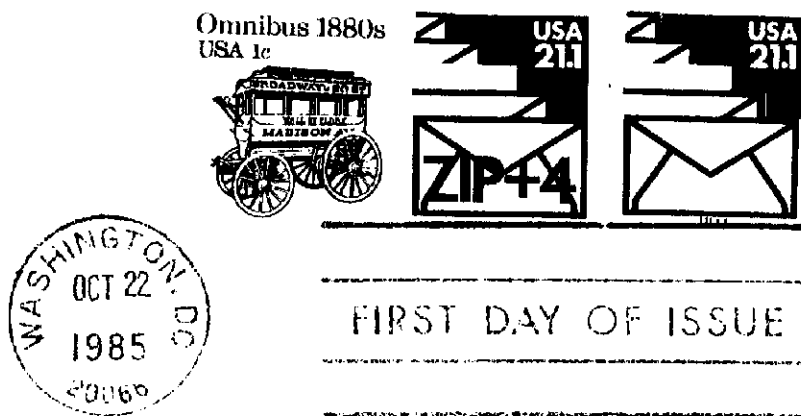
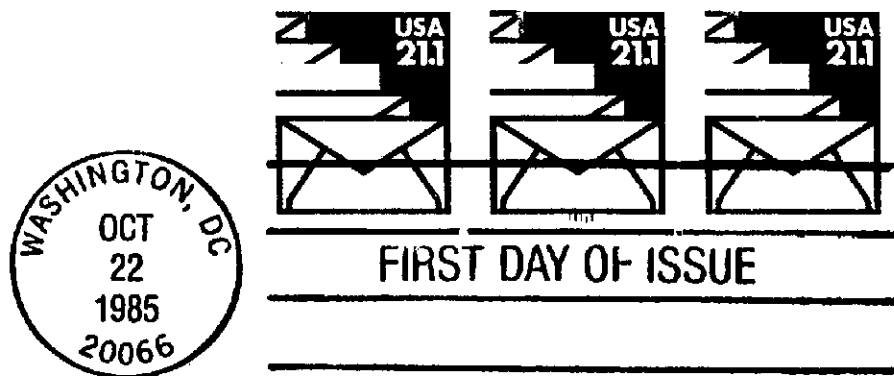

Figure 4: A machine cancel. Note the smaller diameter of the dial.
Figure 5: A hand cancel. Note the larger diameter of the dial.
2) The FDOI cancellation can be applied either by machine or by a hand-stamp. Although some PNC FDC dealers have different prices for machine cancels (Fig. 4) and hand cancels (Fig. 5), in the FDC world there is usually no difference in price. FDC dealers usually do not stock according to machine/hand cancel.